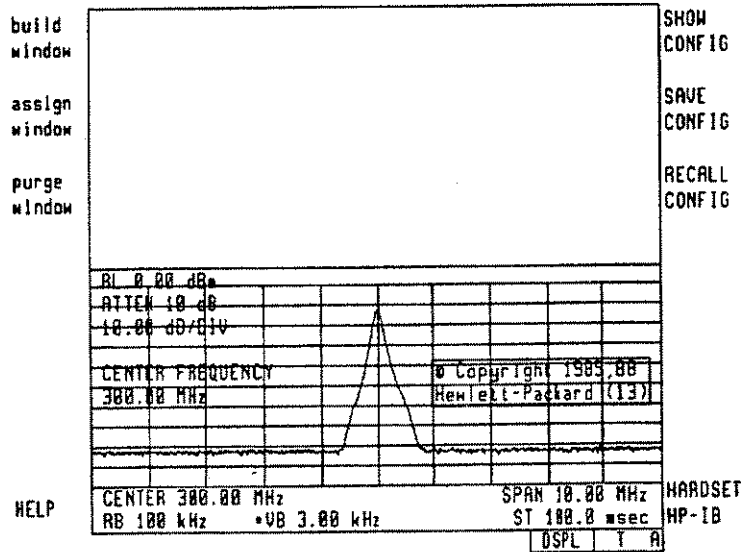

Figure 2-22. Assigning the First Window
- Press **EXECUTE**. The trace output from that measurement instrument should appear in the window as in Figure 2-22.